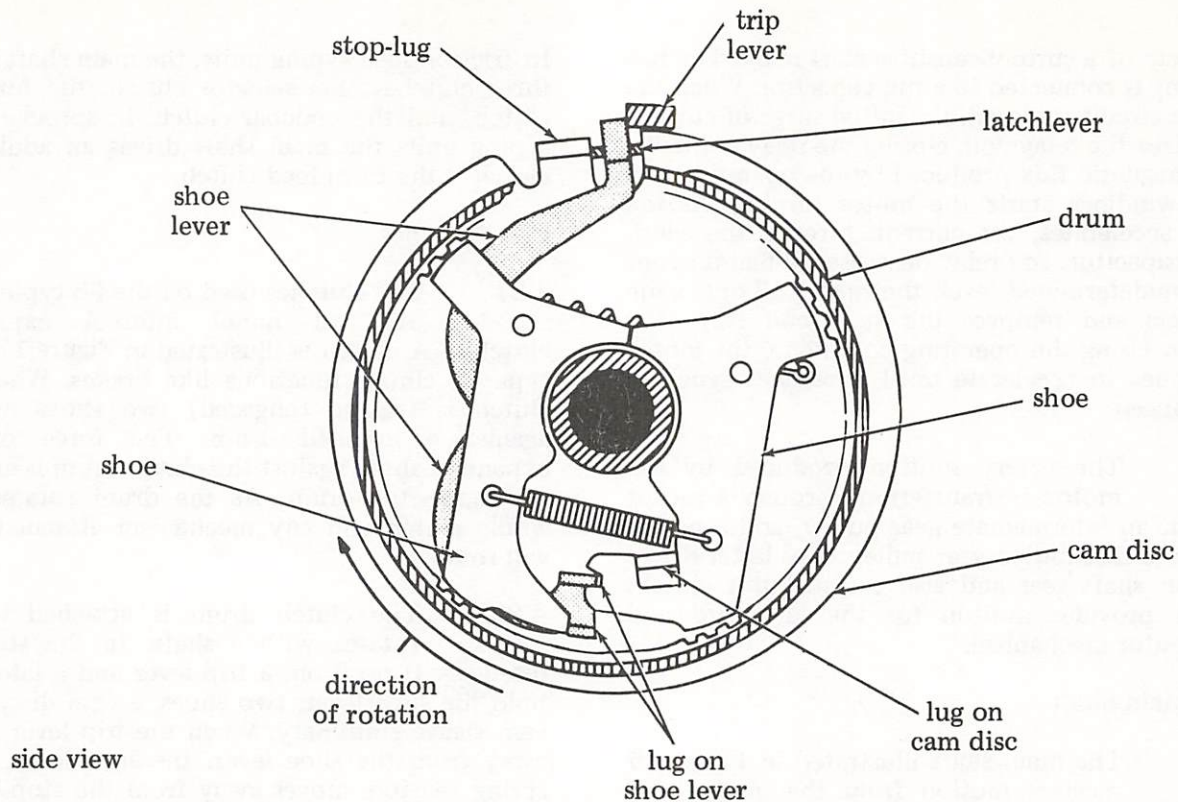

Figure 17 - Internal Expansion Clutch
4.27 The clutches used on the 38 typing unit are all metal internal expansion clutches. A clutch is illustrated in Figure 17. This type of clutch functions like brakes. When the clutch is tripped (engaged) two shoes expand against a notched drum. The force of the expanded shoes against the clutch drum is enough to engage the drum. As the drum rotates, the whole clutch and any mechanism attached to it will rotate.